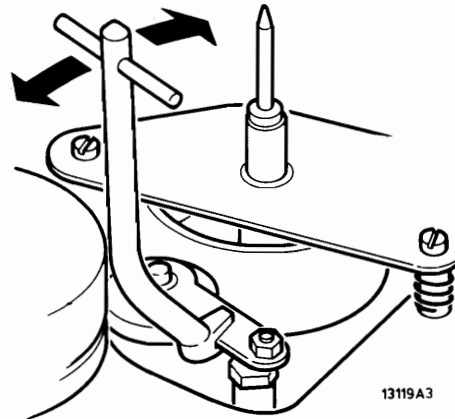

Fig. III-18
- Using lever 4822 395 80084 the idler wheel can be adjusted (see Fig. III-18).